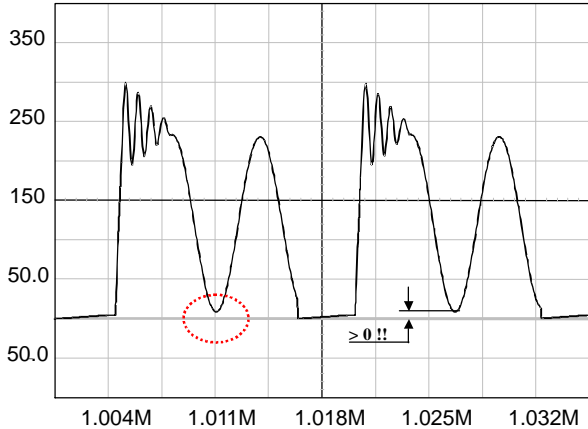

Figure 45. The reflected voltage shall always be greater than the minimum input voltage to avoid the forward biasing of the MOSFET body–diode.
1. The lateral MOSFET body–diode shall never be forward biased, either during startup (because of a large leakage inductance) or in normal operation as shown by Figure 45. This condition sets the maximum voltage that can be reflected during t_{off} .